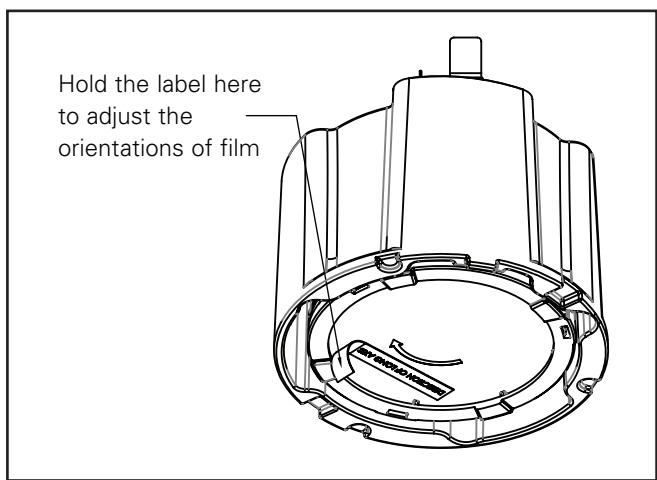

Figure 23
8. To adjust the orientation of the asymmetric film, hold the label tab and rotate it to required position. (Figure 23)